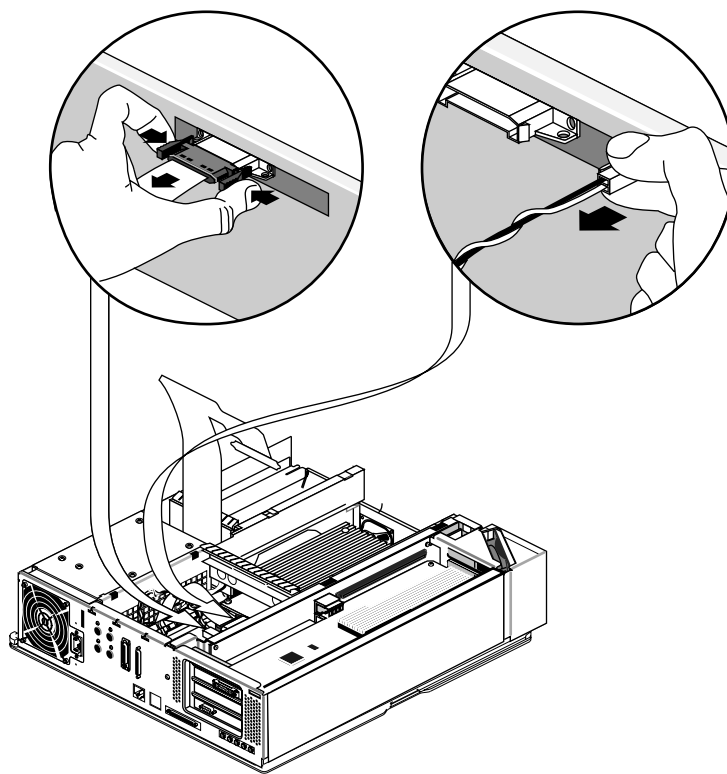

Figure 9-19 Removing the Midplane Power Cables
7. Disconnect the midplane power cables (ribbon cable and twisted-pair cable) from the midplane, as shown in Figure 9-19.
- Pinch together the corrugated edges on the ribbon cable connector, and disconnect it from the midplane. See Figure 9-19.